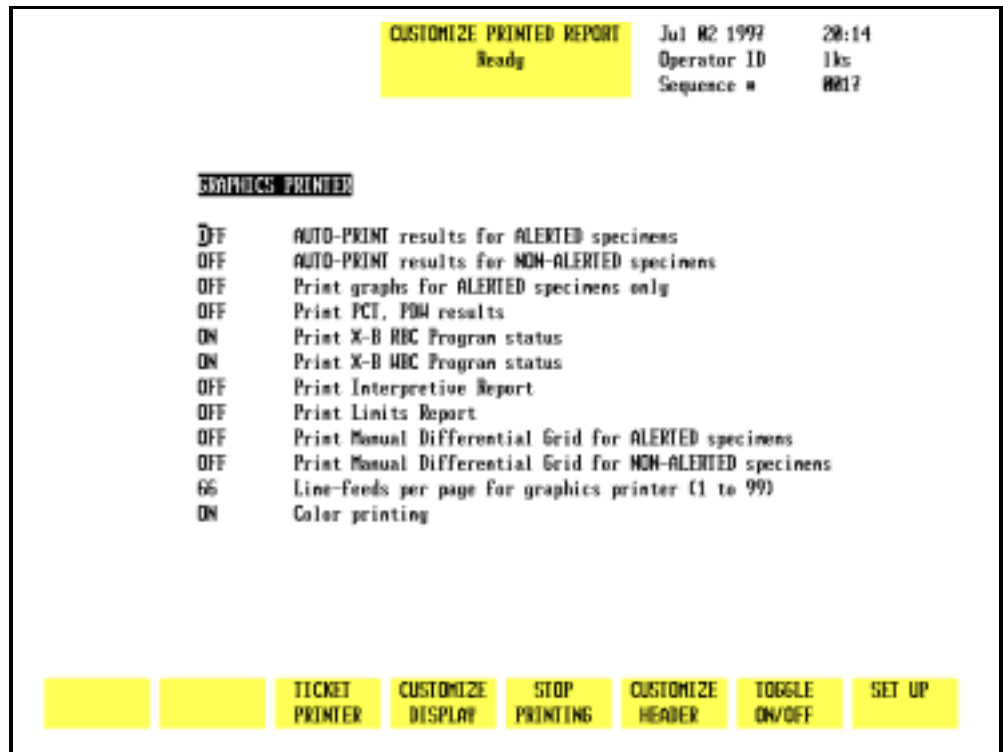

Figure 5.22: Customize Printed Report Screen for the Graphics Printer
When the [GRAPHICS PRINTER] key is pressed, the CUSTOMIZE PRINTED REPORT screen for the Graphics Printer is displayed. (See Figure 5.22.) A description of the options available on the CUSTOMIZE PRINTED REPORT screen is given below:
1. Go to the Graphics Printer set up section of the CUSTOMIZE PRINTED REPORT screen (refer to Figure 5.22).